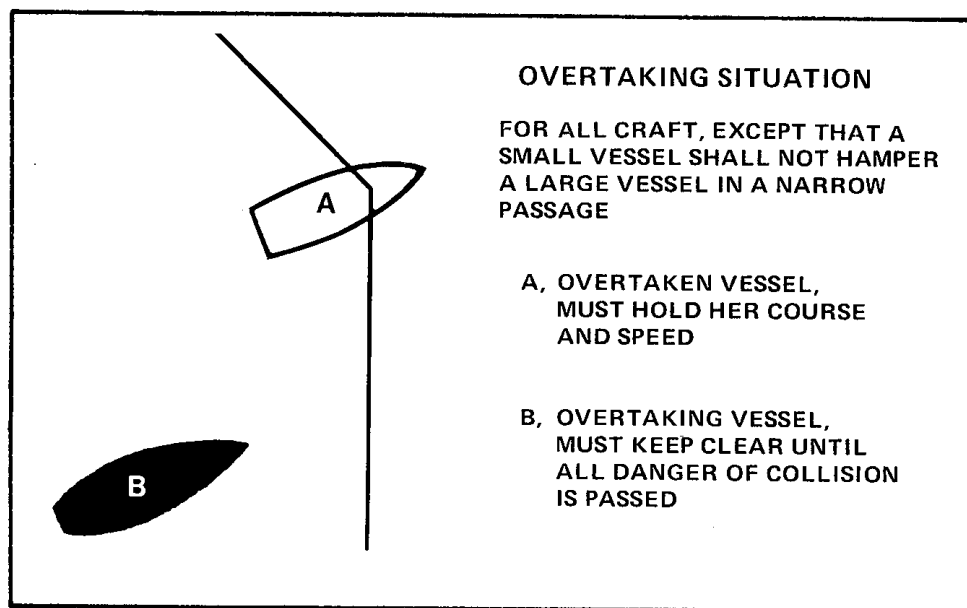

Figure 7-38 Overtaking Situation
- a. **Overtaking Situations** — The **overtaking boat** is required to **keep clear**; she is the **give-way vessel**. The **overtaken boat** is the **stand-on vessel**; she is required to hold her course and speed. A vessel is overtaking another when she approaches from astern, anywhere in the arc shown in Figure 7-38 which will be precisely described later. The right of way established at the start of the overtaking situation is maintained, the overtaken vessel is the stand-on vessel, until all danger of collision has passed. The overtaking rule applies universally to all types of boat, including sail, with the provision that small vessels shall not hamper large ones in narrow passages.